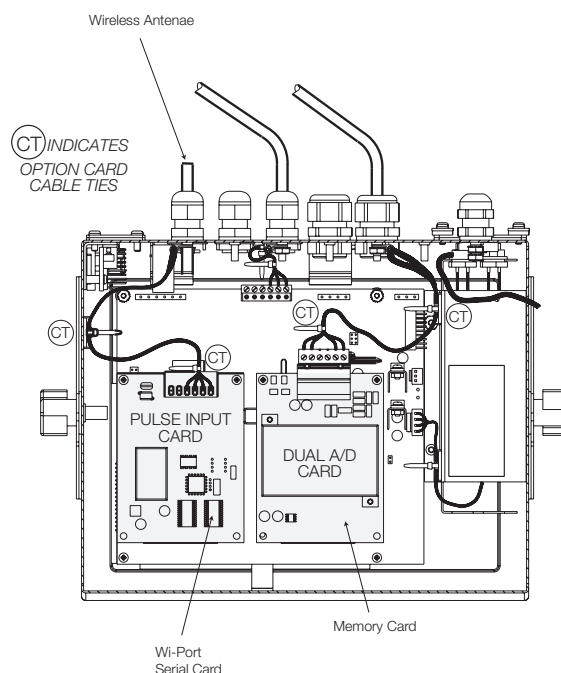

Figure 5-11. Installed Option Cards, Showing Secured Cables
4. Make connections to the option card as required. Use cable ties to secure loose cables inside the enclosure as shown in Figure 5-11. When installation is complete, reassemble the enclosure as described in Section 5.2.7 on page 32.